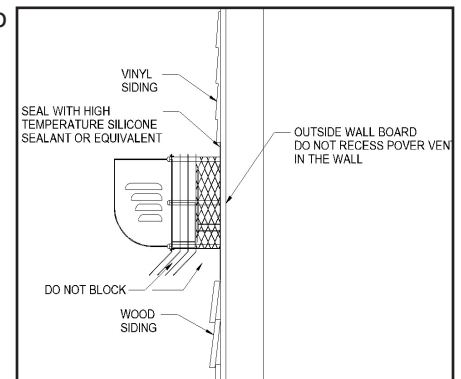

Figure 2
- **Note:** When the siding is greater than 1/2" thick use a spacer plate or board behind the power vent mounting base. (See Figure 2)